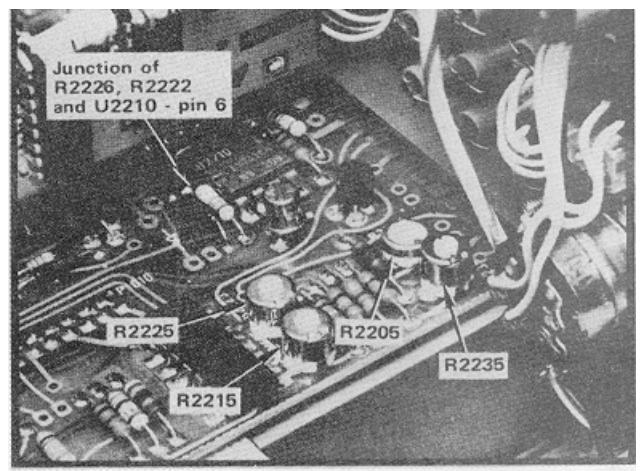

Fig. 4-12. Location of Vertical Control board test points and adjustments.
b. Connect the Input of a vertical amplifier plug-in unit (e.g., 7A18) through a 10X probe to pin 6 of U2210 on the Vertical Control board (Fig. 4-12 and Diagram 18).
e. While switching the step attenuator In 10 dB steps, to change the input signal level 10 dB, adjust Volts/Div Cal R2205 (Fig. 4-12) for a corresponding 1.0 V change (at pin 6) per 10 dB change of signal level. Return the step attenuator to 0 dB.
f. Select the LIN mode with a reference level of 1 mV/Div or higher, disconnect the CALIBRATOR signal from the INPUT and adjust Baseline Offset R2235 (Fig. 4-12) for 0 volt at pin 6 of U2210. Position this 0 V reference level at the top graticule line with the Vertical Position control.
h. With the REFERENCE LEVEL set as directed in step f, switch the Display Mode to 2 dB/DIV and adjust 2 dB Offset R2215 (Fig. 4-12) so the output level at pin 6 is -8 volts. The output level of U2210, for all three modes, should match.